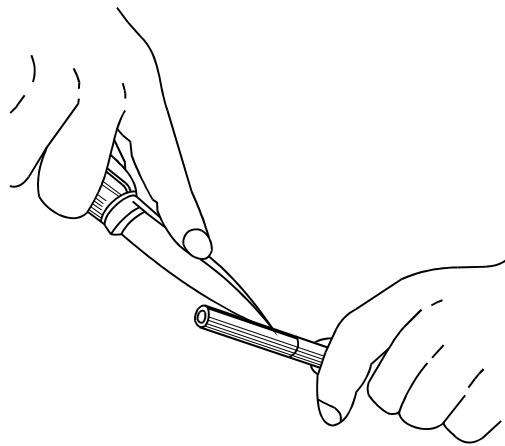

Figure 3-5
19. Without damaging the inner shielding, carefully slit the outer jacket, as shown in Figure 3-5.
20. Peel away the outer jacket to expose the shielding (Figure 3-5).